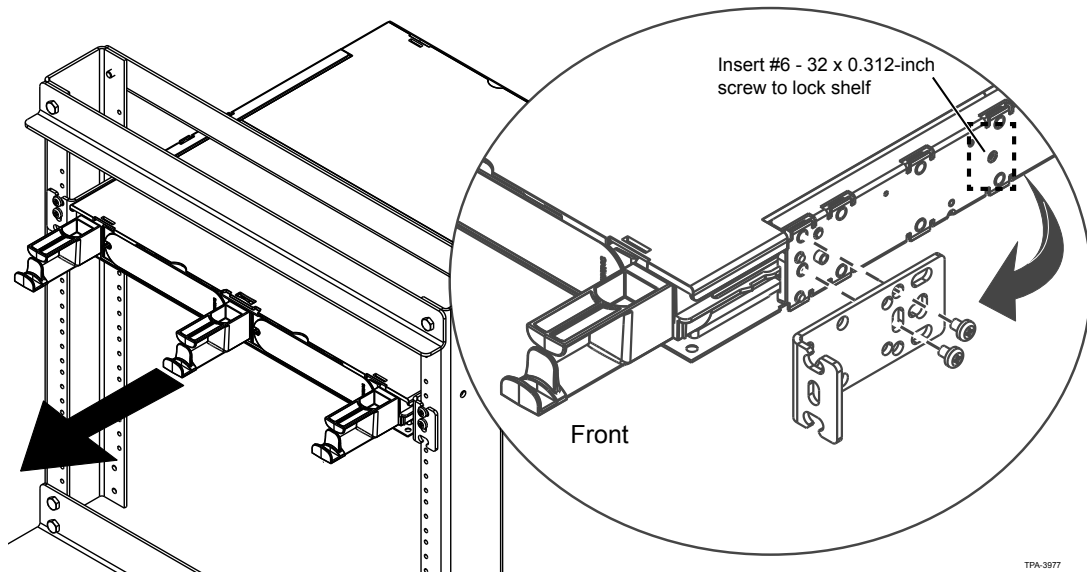

Figure 5
- Step 3:** Relocate the bracket to the front of the housing (Figure 5). Align the screws with the mounting hole locations shown and reinstall the bracket.